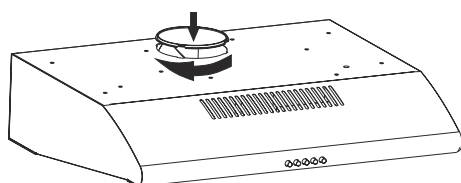

Fig. 8
- ➔ Insert blind plug provided with the installation accessories of your appliance to the flue outlet (Fig. 8).